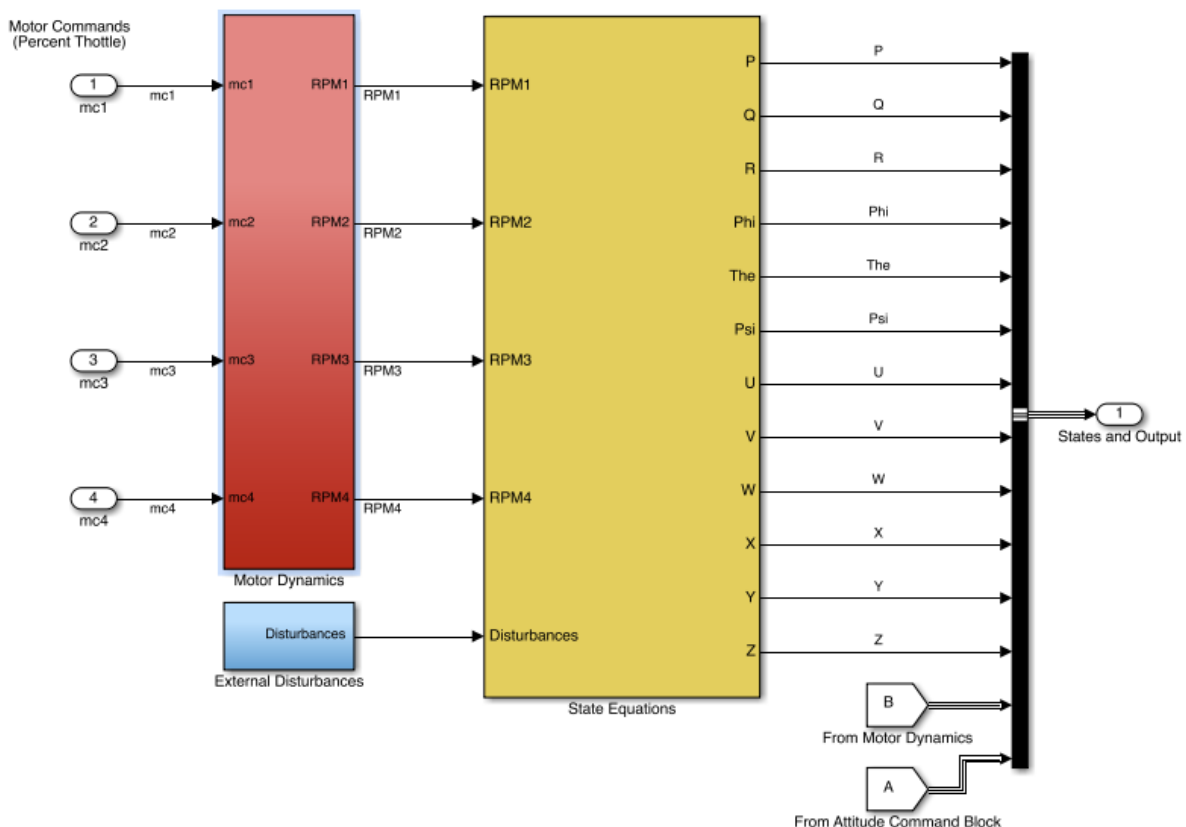

Figure 5. Quadcopter Dynamics block
10. Next we'll check out the Quadcopter Dynamics block. Inside you'll see the diagram shown in Figure 5.